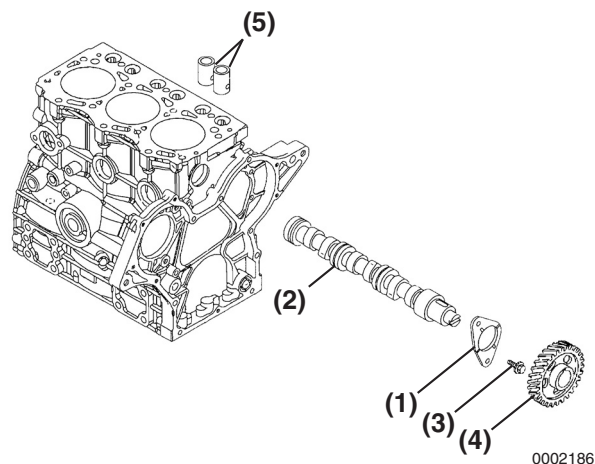

Figure 6-48
2. Remove two bolts (**Figure 6-48, (3)**) retaining the camshaft thrust plate (**Figure 6-48, (1)**).
3. Extract the tappets (**Figure 6-48, (5)**) through the top of the cylinder block. Mark the tappets so they can be reinstalled in the same location.
4. Slowly pull the camshaft (**Figure 6-48, (2)**) assembly out of the engine being careful not to damage the front camshaft bushing.
5. Remove the camshaft gear (**Figure 6-48, (4)**) only if the gear or camshaft require replacement. Use a knife-edge puller and a press to remove the gear. The gear is a shrink-fit and will need to be heated to 356° - 392°F (180° - 200°C) to remove.